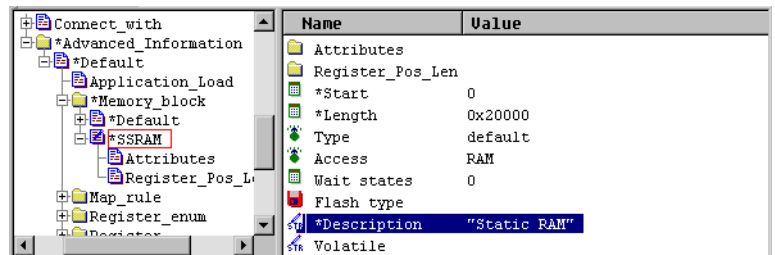

Figure 3-24 Viewing the contents of the new group
8. Set the value of Description to Static RAM as shown in Figure 3-24.